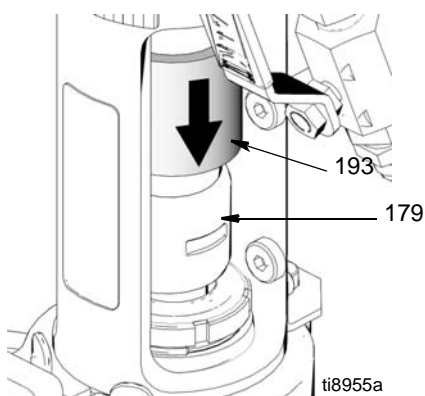

FIG. 25
6. (Fig. 25) Skyv muffedekslet (193) ned over stangmuffene (179).